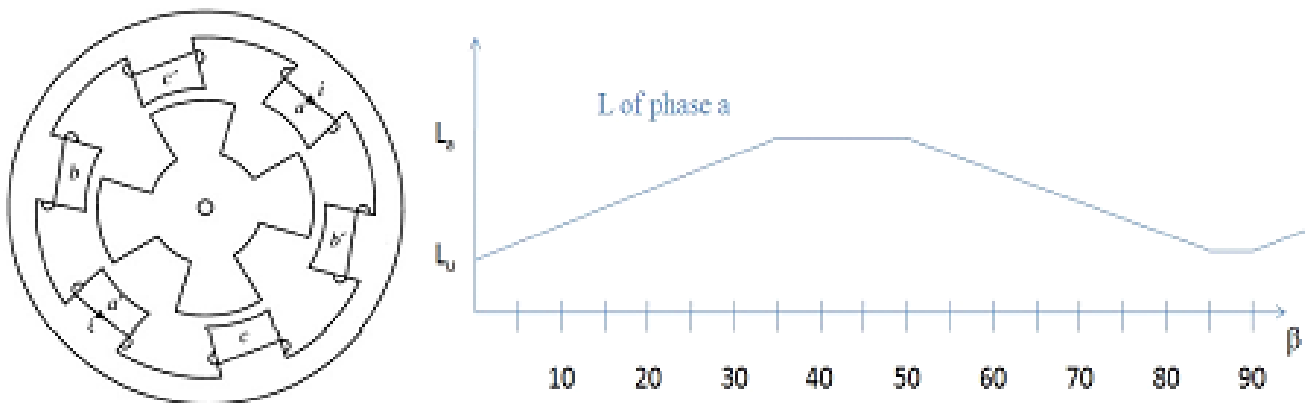
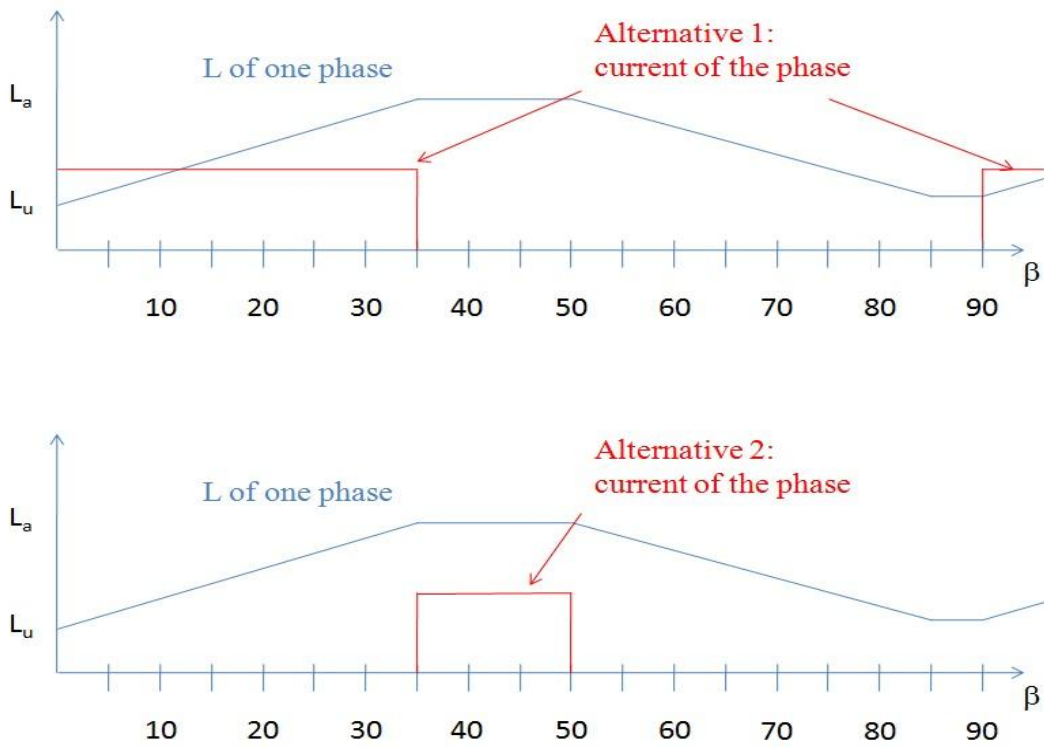

Figure 2
Figure 3
5. The 3-phase switched reluctance motor shown in cross section in Fig. 2 has six stator poles, each covering an arc of  $B_s$  Degrees and four rotor poles, each with an arc of  $B_r$  Degrees. The stator inner diameter is 100 mm and the rotor outer diameter is 120 mm. The stator winding with 100 turns per phase, are supplied with a current  $i$  which is switched to the three series-connected coils (phase a, b and c).
- a) The phase inductance (for phase a) versus rotor position is drawn in Fig. 2 where the inductance at the aligned position is  $L_a$  and the inductance at the unaligned position is  $L_u$ . With the help from Fig. 2, answer to the following question: What are the values of  $B_s$  and  $B_r$  in Degrees?
- b) For the SR motor in Fig. 2, which of the two alternatives shown in Fig. 3 show the correct phase current for motor operation?
- With a stator current  $I=3$ A, and a supply frequency of 50 Hz, what is the mechanical **power** and **torque** produced by the machine? Assume ideal switching action in a power converter of the form of Fig. 3(b). Losses may be ignored.
- a) Number of poles =6 (seen in fig. 2)